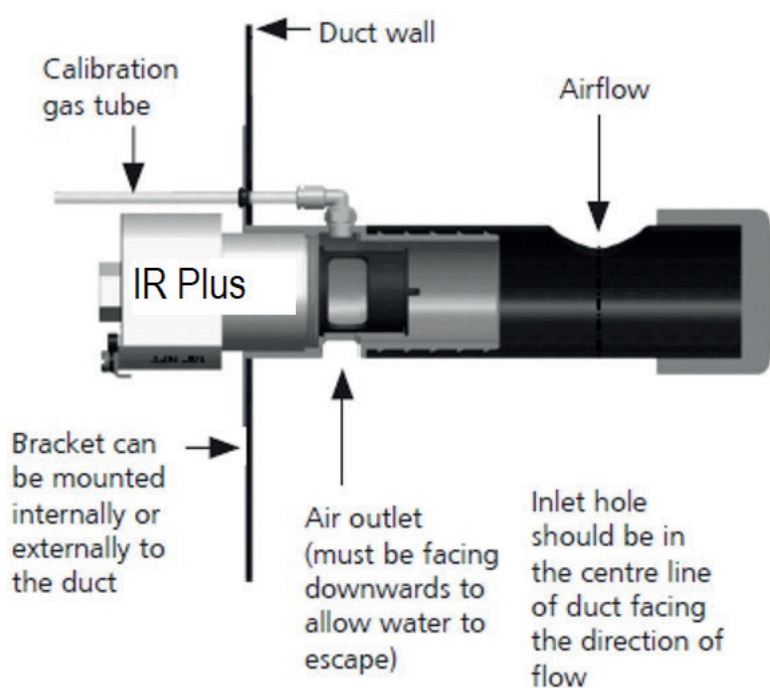

Figure 13: Duct Mount Illustration
4. Use the end boss to mark up the duct ready for drilling the required holes as indicated on Figure 13. Make sure that the centre line is positioned equidistant from the two edges of the duct.